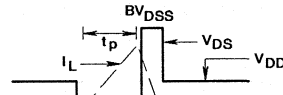

Fig. 15 — Unclamped Energy Waveforms
4. $V_{DD} = 50\text{V}$, starting $T_J = +25^\circ\text{C}$, $L = 2.7\text{mH}$, $R_{GS} = 25\Omega$, $I_{PEAK} = 18\text{A}$. See Figure 15.